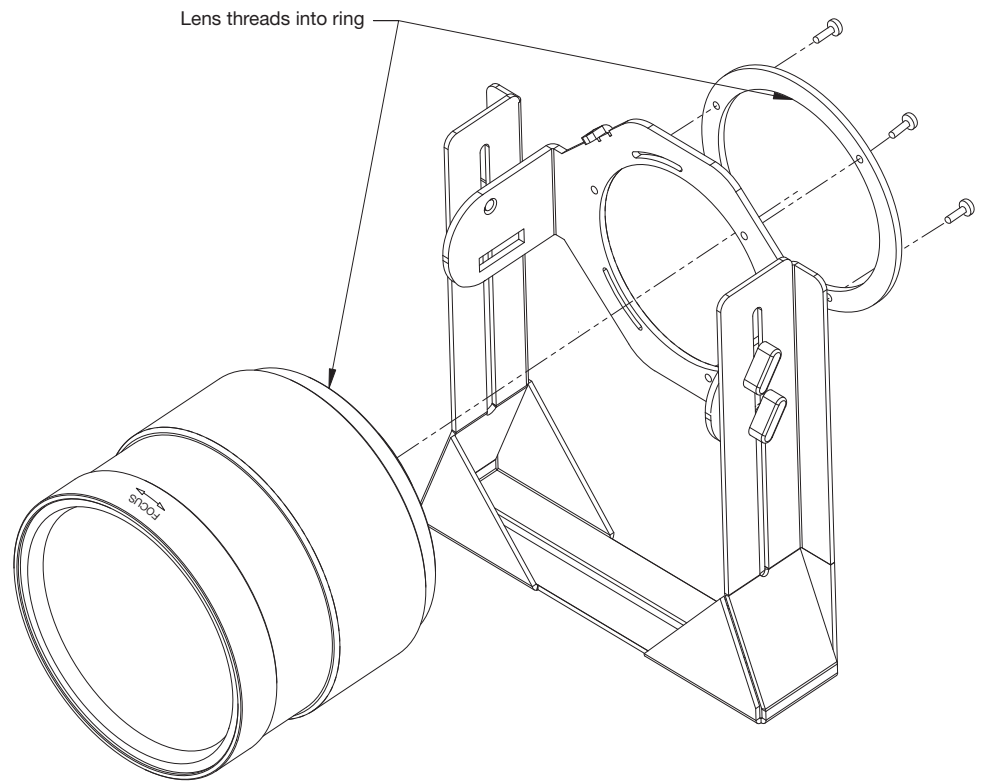

Figure 3-22. Attaching the Anamorphic Lens to the Lens Adapter Ring
4. Use the Lens Mounting Screws to attach the Lens Adapter Ring (item #1) to the Pitch Adjustment Yoke (item #2); see Figure 3-22. (Use the round, threaded holes on the yoke.)